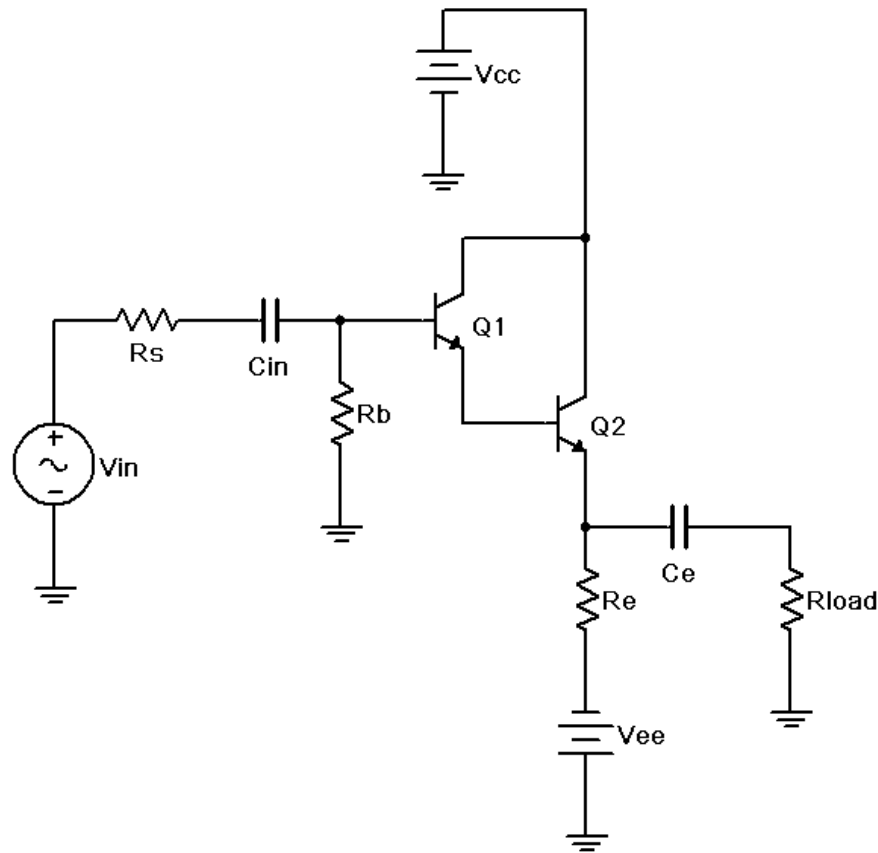

Figure 11.1
1. Consider the circuit of Figure 11.1 using  $V_{cc} = 5$  volts,  $V_{ee} = -12$  volts,  $R_s = 22$  k $\Omega$ ,  $R_b = 470$  k $\Omega$ ,  $R_e = 1$  k $\Omega$ ,  $R_{load} = 220$   $\Omega$ ,  $C_{in} = C_e = 10$   $\mu$ F and  $C_e = 470$   $\mu$ F. Using the approximation of a negligible DC base voltage, determine the DC collector current and  $r'_e$ , and record these in Table 11.1. Using the  $r'_e$ , calculate the expected  $Z_{in}$ ,  $Z_{in(base)}$ ,  $Z_{out}$  and  $A_v$ . Record these in Table 11.2. If a transistor curve tracer or beta checker is not available to get an approximate value of beta for the transistors, estimate the pair at 10,000.
2. Build the circuit of Figure 11.1 using  $V_{cc} = 5$  volts,  $V_{ee} = -12$  volts,  $R_s = 22$  k $\Omega$ ,  $R_b = 470$  k $\Omega$ ,  $R_e = 1$  k $\Omega$ ,  $R_{load} = 220$   $\Omega$ ,  $C_{in} = C_e = 10$   $\mu$ F and  $C_e = 470$   $\mu$ F. Disconnect the signal source and check the DC transistor voltages to ensure that the circuit is biased correctly. (Note: The base should be close to zero while the emitter will be two  $V_{BE}$  drops less, or about -1.4VDC.)